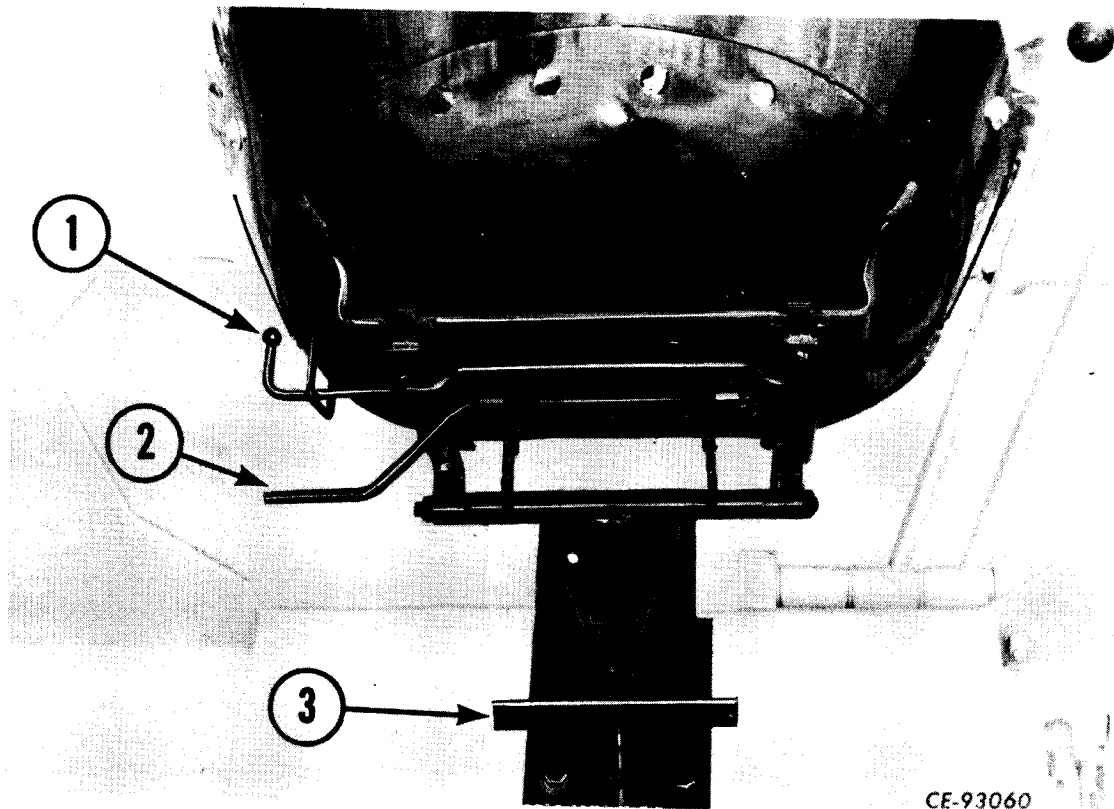

Figure 1-11
The compartment enclosure (5) is bolted to the front main frame (3, Fig. 1-2) with the operator's seat assembly mounted on a raised platform at the rear of the enclosure. The seat height is controlled by the adjustable mounting bracket (3, Fig. 1-11).